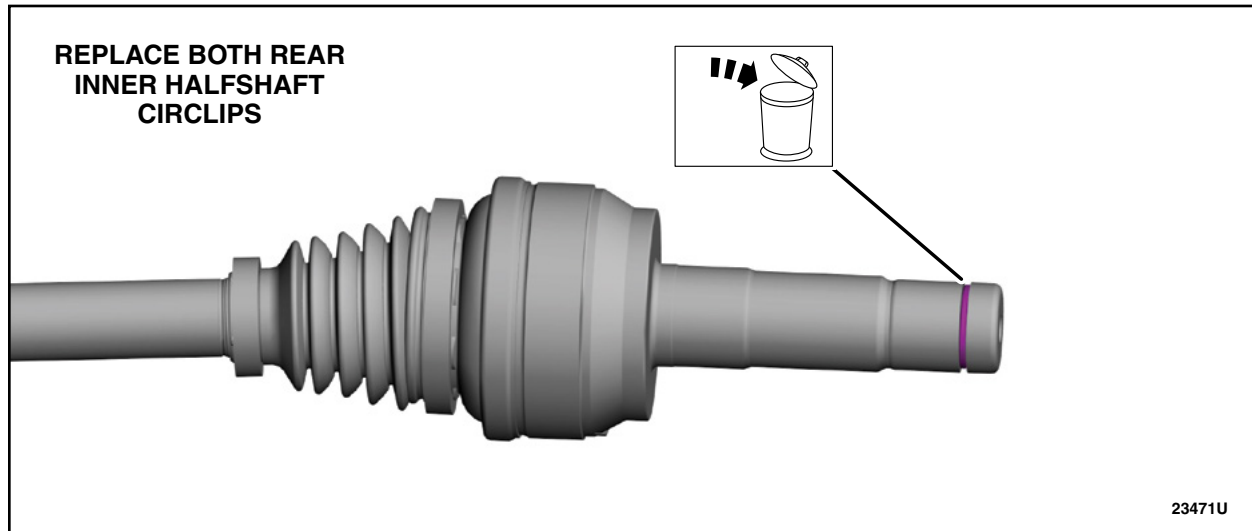

FIGURE 18
25. Remove and discard both rear inner halfshaft circlips. Then, install *new* circlips onto both rear inner halfshafts. See Figure 18. Then, proceed to the next Step.